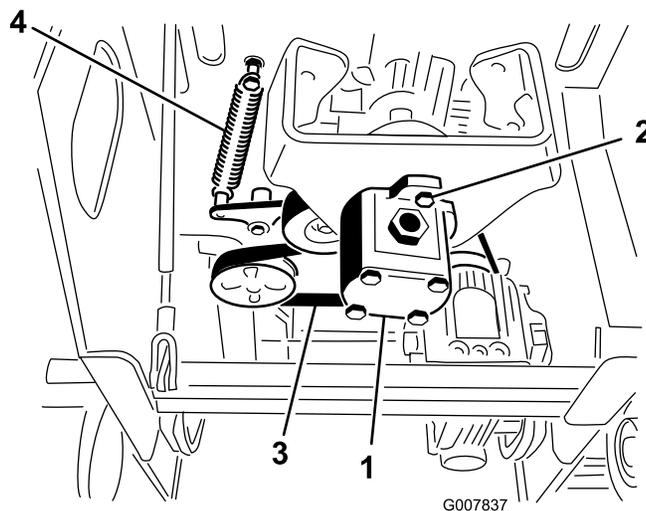

Figure 49
5. Loosen the 2 pump bolts (Figure 49).
6. Twist the pump counter clockwise and allow it to drop down away from the pulley (Figure 49).
7. Using a spring puller (contact your Authorized Service Dealer) or stiff metal hook, pull the end of the idler pulley spring off of the spring bolt to release tension on the belt (Figure 49).